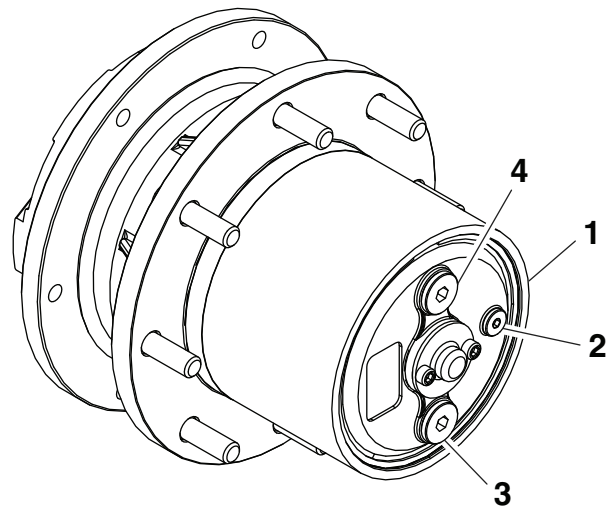

Figure 43
3. Orient gearbox check plug to the right with fill port on the top (as shown in Figure 43).